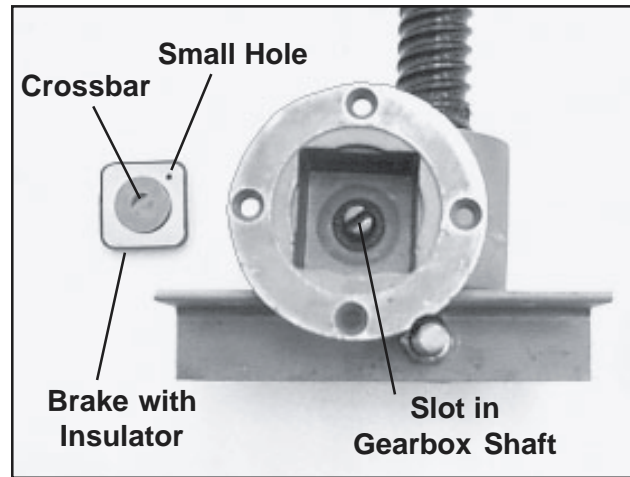

Figure 46. Brake & Gearbox
1. Rotate the gearbox shaft to align the slot in the end of the shaft with the crossbar on the brake (Figure 46).